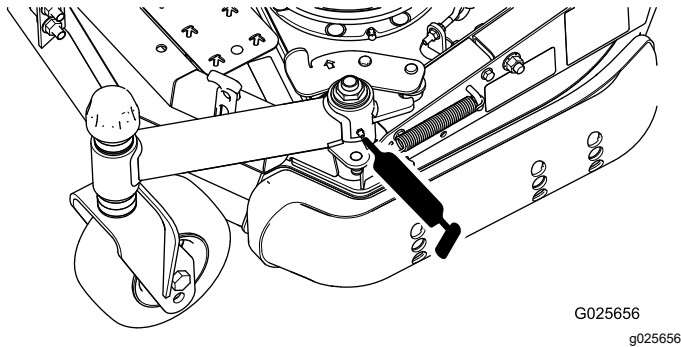

Figure 19
- Pivot de bras pivotant repliable (1) (Figure 19)